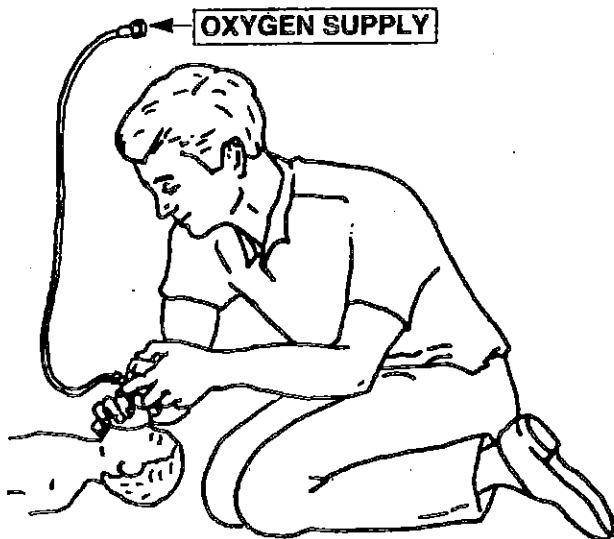

Figure 2
4. With one hand placed under the infant's chin, tilt the head back (to open the infant's air passages) and place the mask over the nose and mouth. Hold the mask in place with the thumb, index finger, and middle finger, while using the rest of the fingers under the chin to hold the infant's head back (See Figure 2).